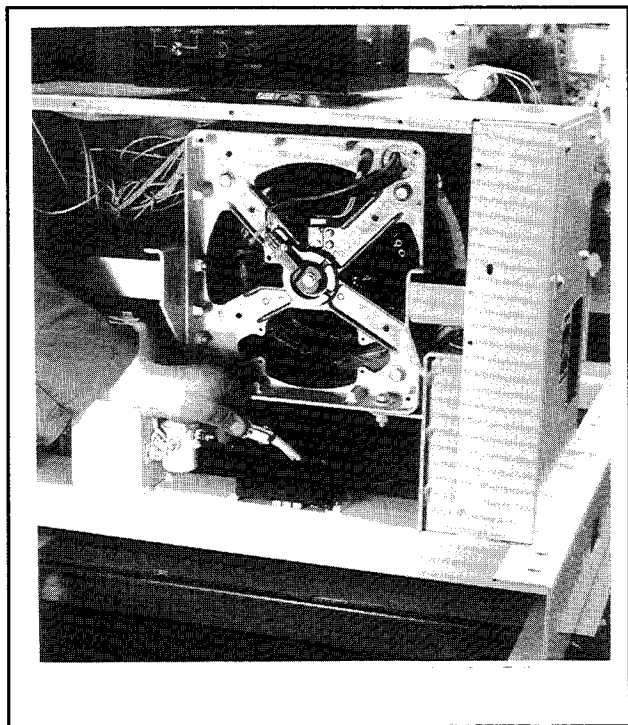

Figure 8-5. Disconnecting Voltage Regulator
6. Disconnect voltage regulator from wiring harness at six-pin in-line connector. See Figure 8-5. Remove all leads to starter solenoid. Mark leads, as necessary, for reassembly.